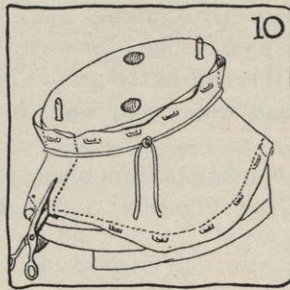

FIG. 10.
- g. Cut the brim so that the two edges of the felt seam meet, and so that the seam comes exactly where it is desired (see Figure 10).